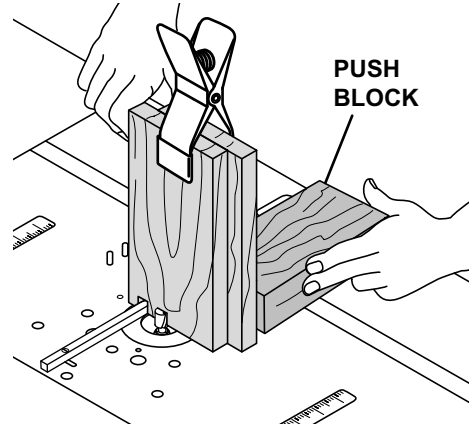

Figure 48
8. Continue making your cuts across the entire width of the pieces of wood, using each previous cut as a guide. See Figure 48.